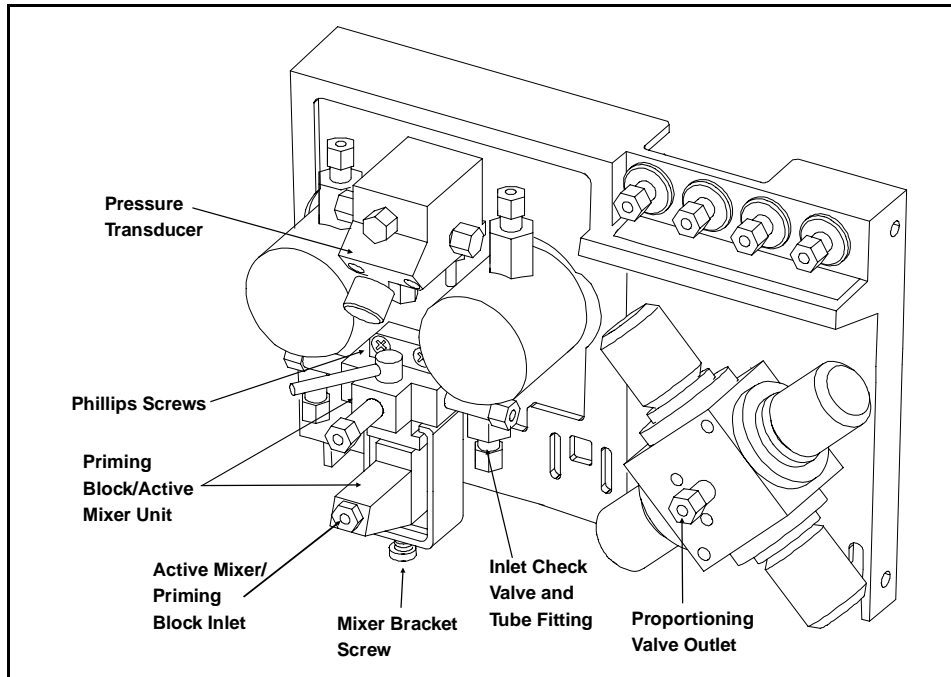

Figure D-4. Location of Priming Block/Active Mixer Unit
1. Disconnect the tubing from the proportioning valve outlet and the active mixer/priming block inlet (see Figure D-4).
3. Use a 1/2-in wrench to loosen the two inlet check valves (see Figure D-4). **Carefully** remove the valve bodies and set them aside **in an upright position**.
9. Attach the new active mixer/priming block unit to the mechanical chassis, using the Phillips screws. Figure D-4 shows an installed active mixer/priming block unit.